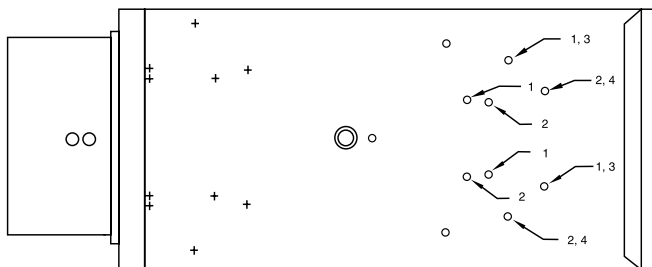

Figure 3
1. Loosen the crank arm bolt (A) until the damper shaft rotates freely.
2. Remove the screws (B) securing the actuator mounting bracket to the terminal unit.
3. Relocate the actuator to the proper mounting holes as per Figure 3 and Table 1.